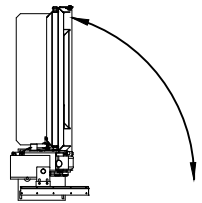

Figure 4
- Step 2. Rotate the gate 90° to parallel with the inside wall of the vehicle. (Figure 4)
- Step 2. Rotate the gate 90° to parallel with the rear door of the vehicle. (Figure 4)